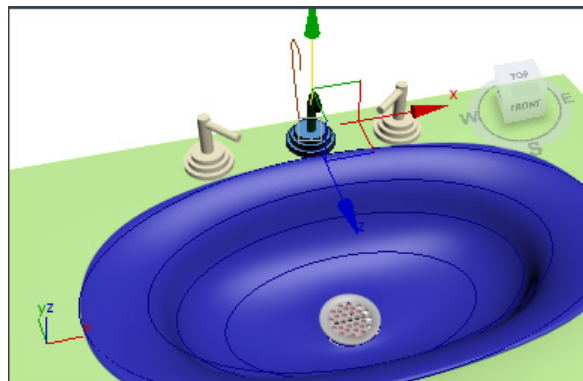

Figure 15-79 Alignment of the main tap in viewports
- Group *base* and *upper tap* as *main tap* and then align it, as shown in Figure 15-79.